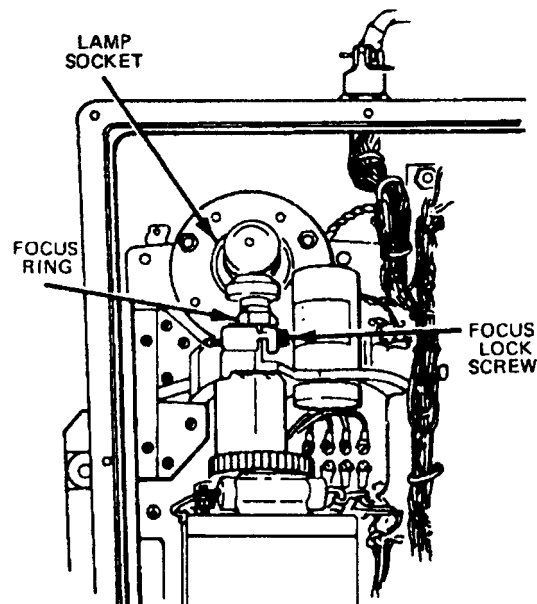

Figure 6. ITS focus and alignment points.
- (1) Set POWER switch on extender cable B7 to OFF.
- (2) Loosen focus lock screw, figure 6.
(1) Using asbestos glove B3, carefully reseal lamp in socket, figure 6, until image is centered to within ± 2 reticle divisions upon 180 degree image rotation.
(2) Proceed to step **8g**.